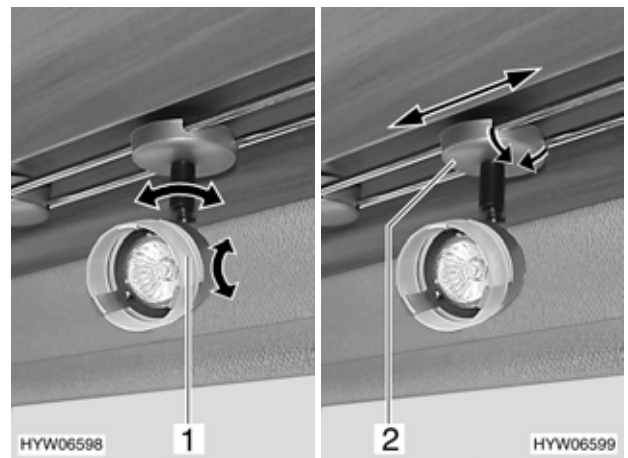

Fig. 101 Spotlight
- Hold housing (Fig. 101,1) and turn.
- Hold housing (Fig. 101,2).